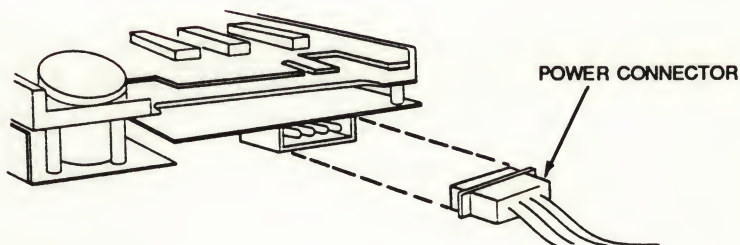

Figure 3-7 Applying Power to the Tape Drive
7. Locate an available power lead (twisted wire cable with plastic four-pin connector) inside your system and connect it to the tape drive as shown in Figure 3-7.